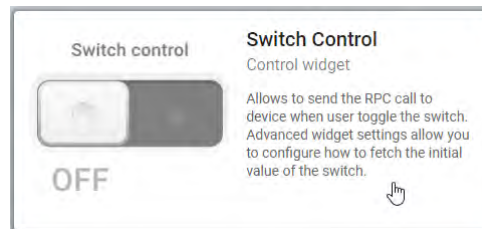

Figure 4.5: Switch Control
- Now add the **switch control widget** to your dashboard as shown in Figure 4.5.